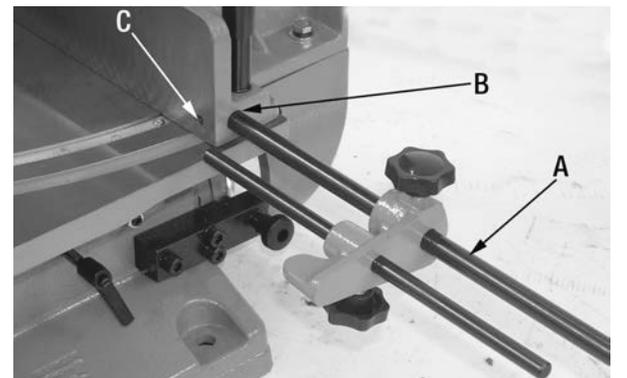

FIGURE 5
3. Install the long work stop shaft (A) Fig.5 into the end of the fence (B) as shown. Secure the work stop assembly by tightening the set screw (C) on the front of the fence.